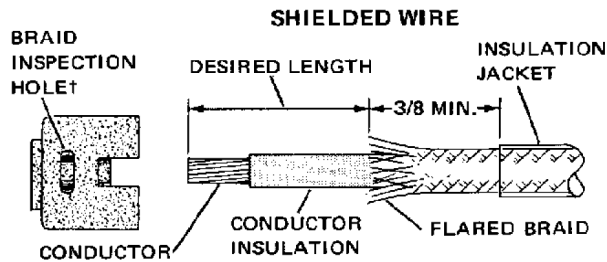

Figure 9
1. Place ferrule on shielded wire as shown in Figure 9. Flare the braid so that it will pass over and around support sleeve of ferrule.